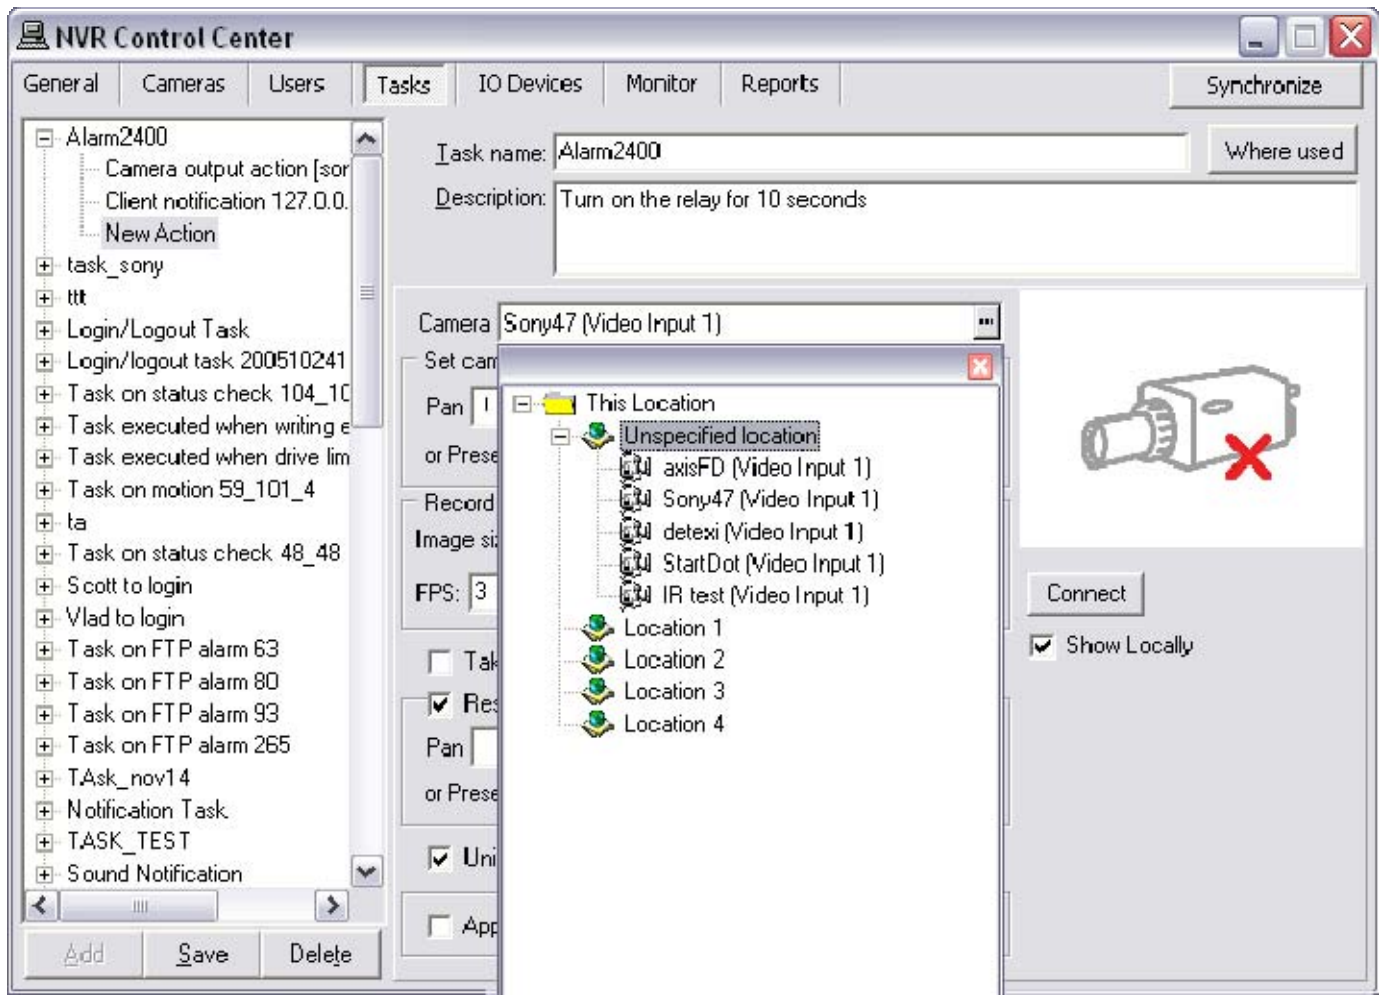

Fig 80. NVR Control Center — Tasks
1. Choose camera to configure from the **Camera** drop-down list (Fig 80).